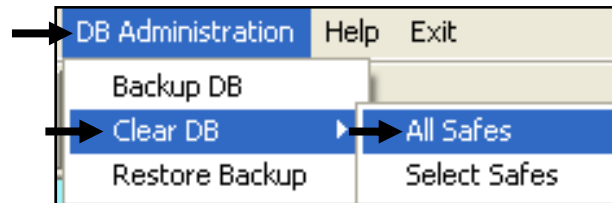
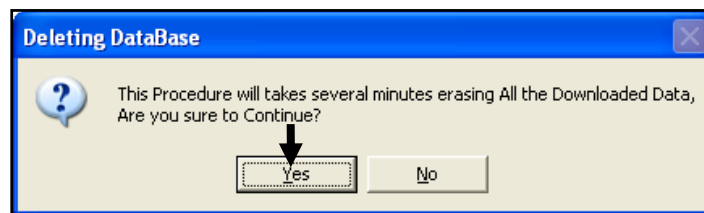

Fig. 10.3
Fig. 10.4
- 1) To remove all safes from the database, select the **Clear DB** option from the **DB Administration** menu and then select **All Safes** (Fig. 10.3). A warning message will appear asking if you would like to continue (Fig. 10.4). Select **Yes** to clear all safe information from the database.